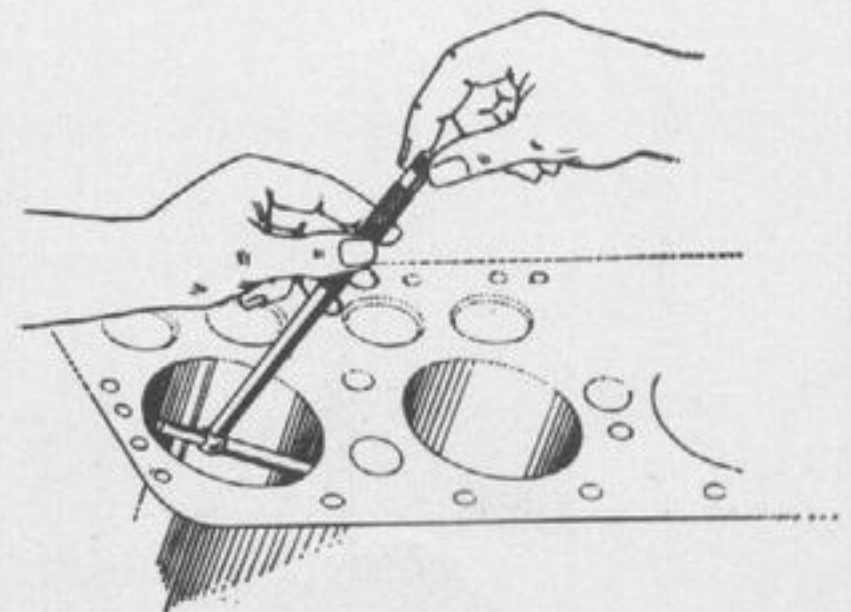

Figure 57—Placing Gage in Bore
(1) Loosen the friction screw on the end of the telescope gage handle.
(2) Close the points to a size smaller than the bore to be checked, holding them while you retighten the friction screw.
(3) Place the gage in the bore on a slight angle as shown in figure 57.